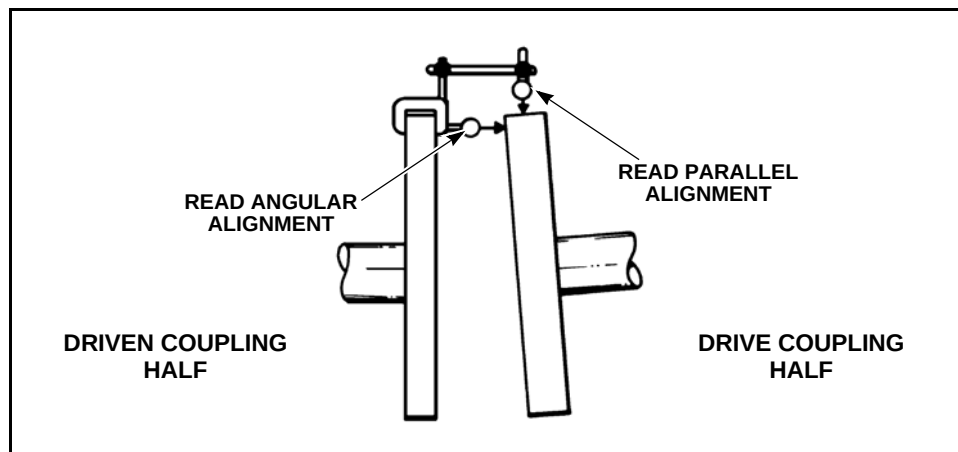

Figure 9-17 Position of Dial Indicator
1. Set up a dial indicator to read parallel alignment. If available, setup a second dial indicator to read angular alignment. This will allow you to rotate the shafts only one time to get both readings (see Figure 9-17).